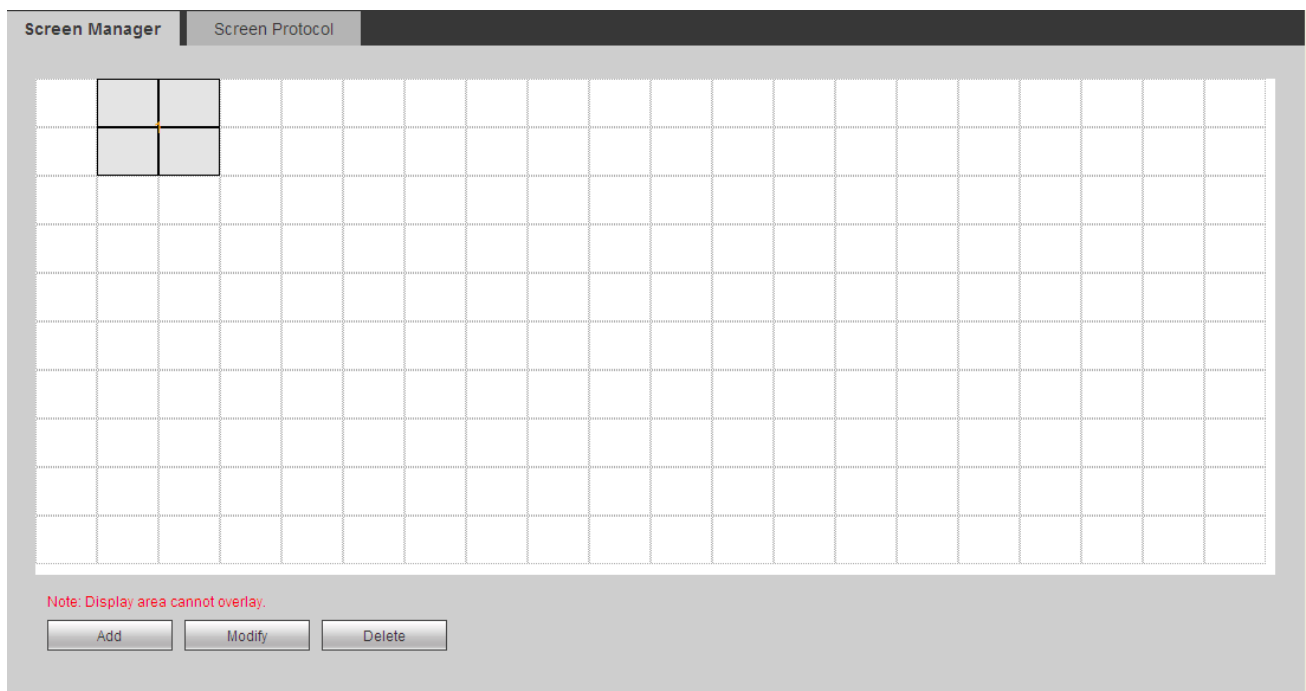

Figure 3- 55
Step 1. Select settings>display management>TV wall. System displays Figure 3- 55.
Step 2. Click Add. System displays Figure 3- 56.